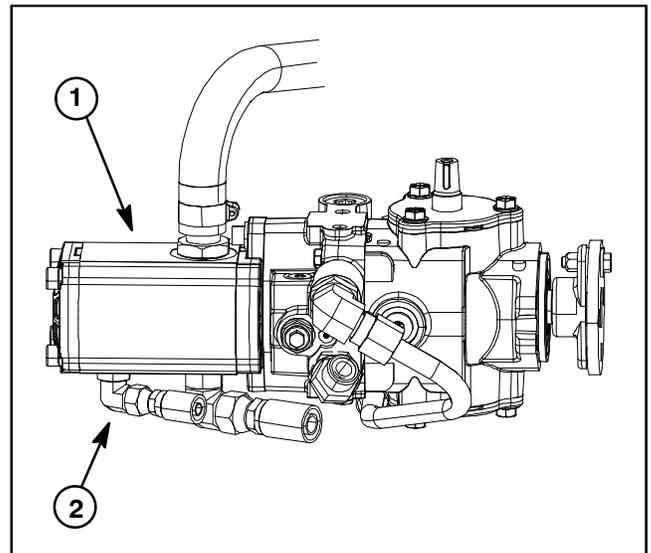

Figure 24
1. Make sure hydraulic oil is at normal operating temperature by operating the machine for approximately ten (10) minutes.
4. Thoroughly clean junction of hydraulic hose and the hydraulic fitting in the rear gear pump section (Fig. 24). This hose leads to port P in the steering valve.